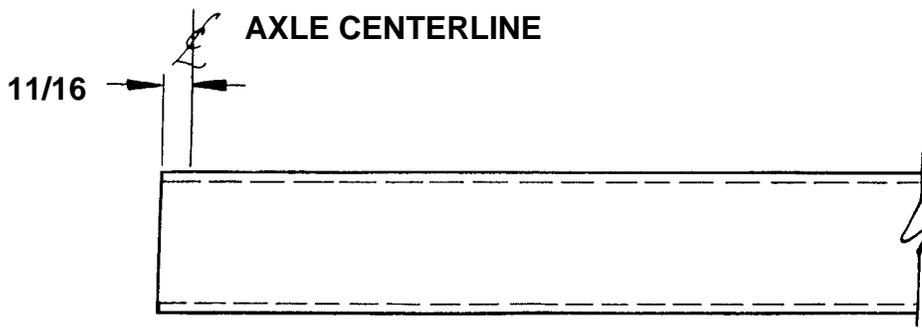
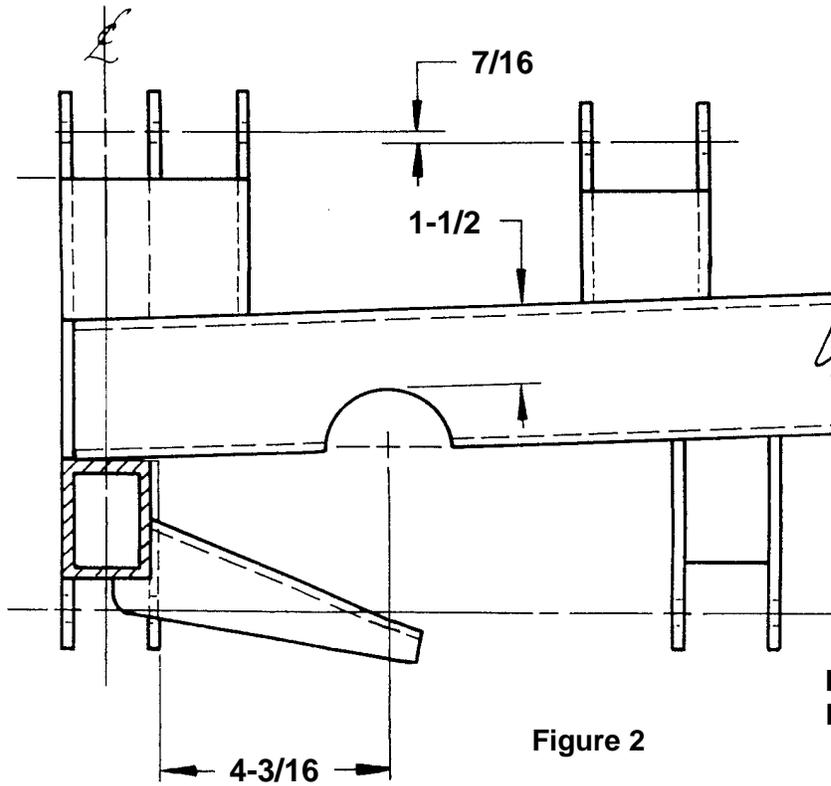

Figure 1
Figure 2
3. Locate your axle centerline markings. Make a new mark 11/16" forward of the axle centerline mark . See Figure 1. This mark is to be a cut line, scribed around the rails exactly vertical to the ground (not necessarily square to the rails) and straight across the front from rail to rail. The crossmember has front plates on it which will cap the fronts of the rails, so you can see how the rails need to be trimmed. It is important that the crossmember be vertical, and not necessarily square to the rails themselves. This has to do with the caster and anti-dive. See Figure 2.
4. The crossmember can be trial fitted onto the rails now. The plates on the crossmember will cap the ends of the rails, and the rails should also fit up against the side uprights. If not, some fitting may be required. Once the crossmember is fitted correctly, again making sure that it is vertical, it can be tack welded in place. See Figure 2. It is not recommended to finish weld it in place at this time. The finish welding should be done only after the entire installation is complete and all the components are installed and lined up. Again, the old saying "measure twice, weld once" is the best way to success for your installation.
same as the crossmember. Also check the measurements diagonally to be sure everything is square. If the mounts are tight against the frame pushing the lower arms down, grind/fit the mounts to the underside of the rails. Again, only tack weld them in place. See Figure 2. Remove the tie bar when done.
6. The upper control arm rear mounts are next. Again the upper control arms and tie bar become temporary alignment fixtures. Installation of the upper arms is slightly different, however, due to the adjustable ends. The spindles should be temporarily installed onto the lower control arms and the upper arm ball joints then slipped into the spindles. With the lower arms level, adjust the front adjusters in the upper arms to bring the camber of the spindles to  $0^{\circ}$ . Snug up the bolts on the front adjusters to align the front tubes straight out from the crossmember. This should give you  $1^{\circ}$  of caster, also. Now you can position the rear adjusters. They are set using the upper arm temporary tie bar to 26-1/4", which is the same spread as the front adjusters, but are located lower than the fronts by 7/16". See Figure 2 & 3. This rearward tilt of the upper arms is the anti-dive angle. A piece of threaded rod does not work here since the bolt holes in the main crossmember do not tilt downward. Bolt the tie bar onto the upper mounts and adjusters. Fit the mounts to the frame, keeping them vertical and spread dimension correct when fitting them. Remove the tie bar when done.
7. The C-Notch in the frame is the last part to do. Carefully layout the sides of the frame as shown in Figure 2. Again, it is better to cut a little at a time and grind a little to fit than to cut too much away. After the notch is cut out, install the rack and slip the filler plates in to check the clearance around the rack boots. A minimum of 1/8" clearance around the rack boots should be provided as the boots move around slightly as the suspension travels.